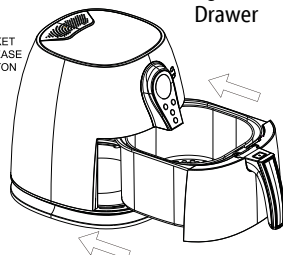

Figure 5
5. Slide Drawer Pan (2) back into the Main Fryer Base (6) (see Figure 5).